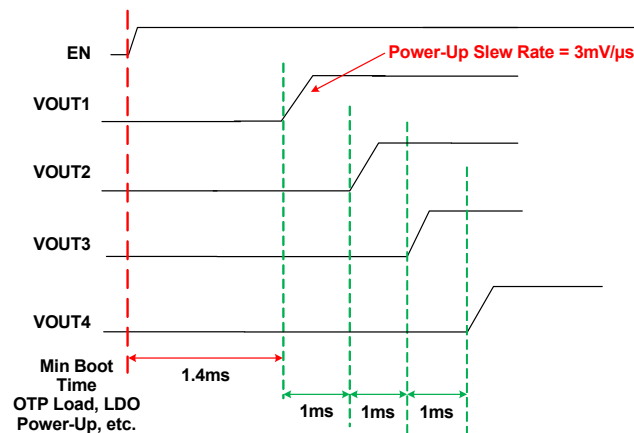

Figure 36. Chip Power-Up Example
Figure 36 provides an example of power-up configurability. The master chip enable pin (EN) transitions from 0 to 1 and OTP is loaded over 1.4ms. After that initial 1.4ms boot interval, the buck output startup sequence begins. In the Figure 36 example, BUCK1_EN_DLY is set for 0ms, BUCK2_EN_DLY is set for 1ms, BUCK3_EN_DLY is set for 2ms and BUCK4_EN_DLY is set for 3ms.